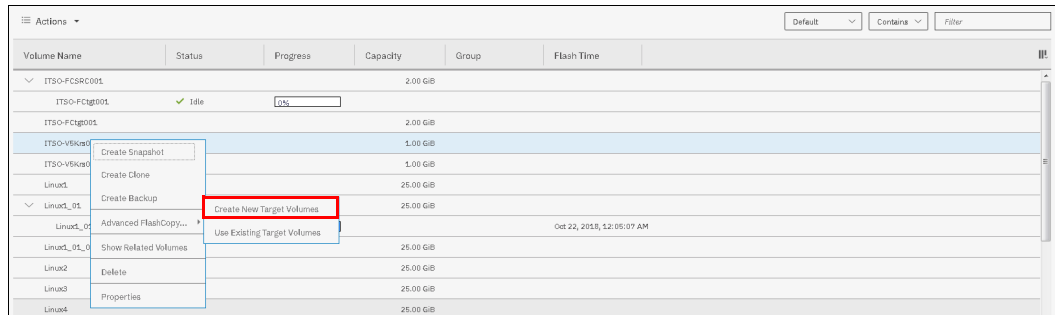

Figure 10-21 Create new target volumes
1. Select the source volume by left-click; then, click **Actions** → **Advanced FlashCopy** → **Create New Target Volumes**, as shown in Figure 10-21 on page 499.